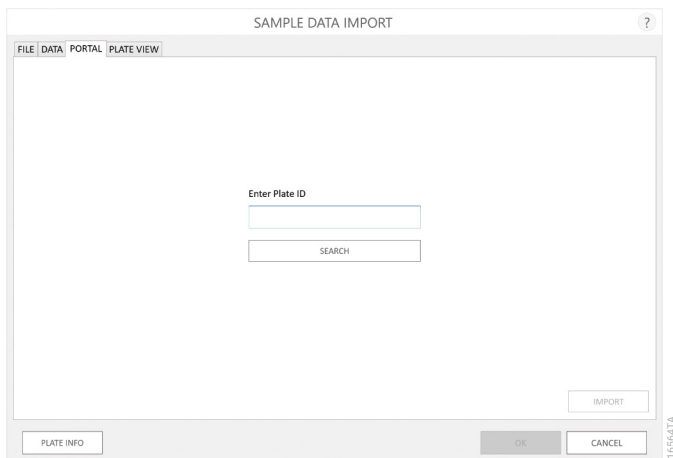

Figure 48. Portal Tab on the ‘Sample Data Import’ screen. Use the Portal tab to retrieve plate map information from the Portal software.
4. From the 'Sample Data Import' screen, tap the Portal tab (Figure 48).